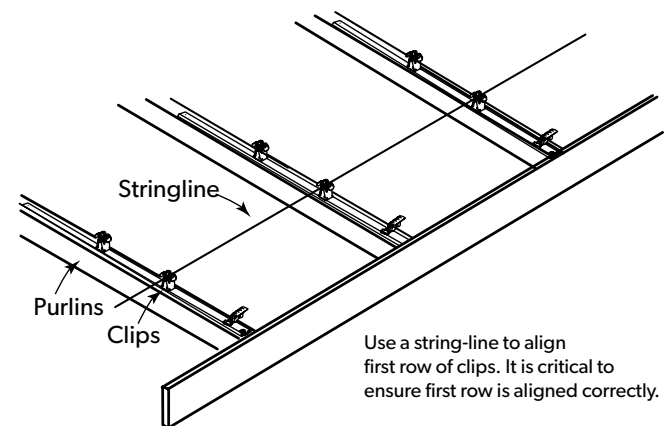

Figure 3
- 4 Align the clips using a string line (Figure 3) or the first sheet as a straight edge to align the clips as you fix a clip to each support working towards the high end of the roof.